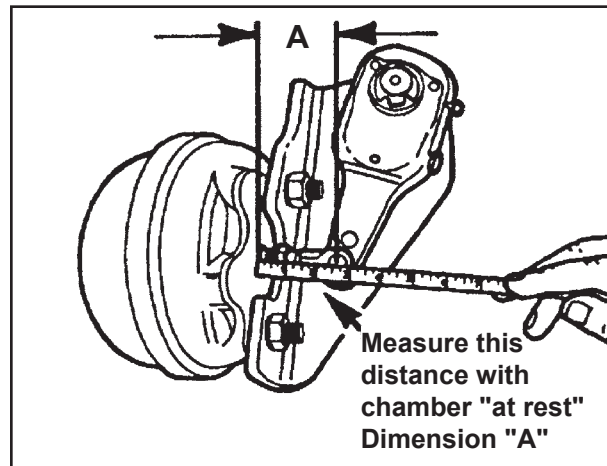

Fig. 3
1. Measure from the brake chamber face to the center of the clevis pin at all wheel locations (see **Fig. 3**).